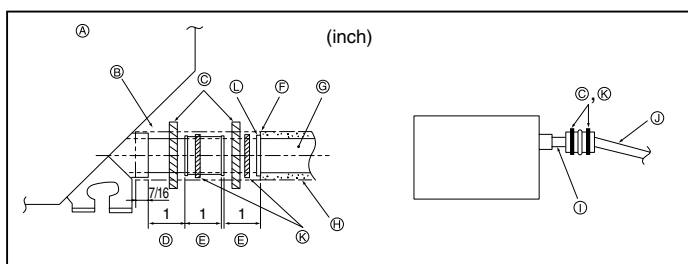

Fig. 3-5
- ① O. D. ø38 mm, 1-1/2 inch PVC TUBE for grouped piping. (9 mm or more insulation)
- ② Up to 850 mm, 33-7/16 inch
1. Connect the drain socket (supplied with the unit) to the drain port. (Fig. 3-5) (Fix the tube using PVC adhesive then secure it with a band.)